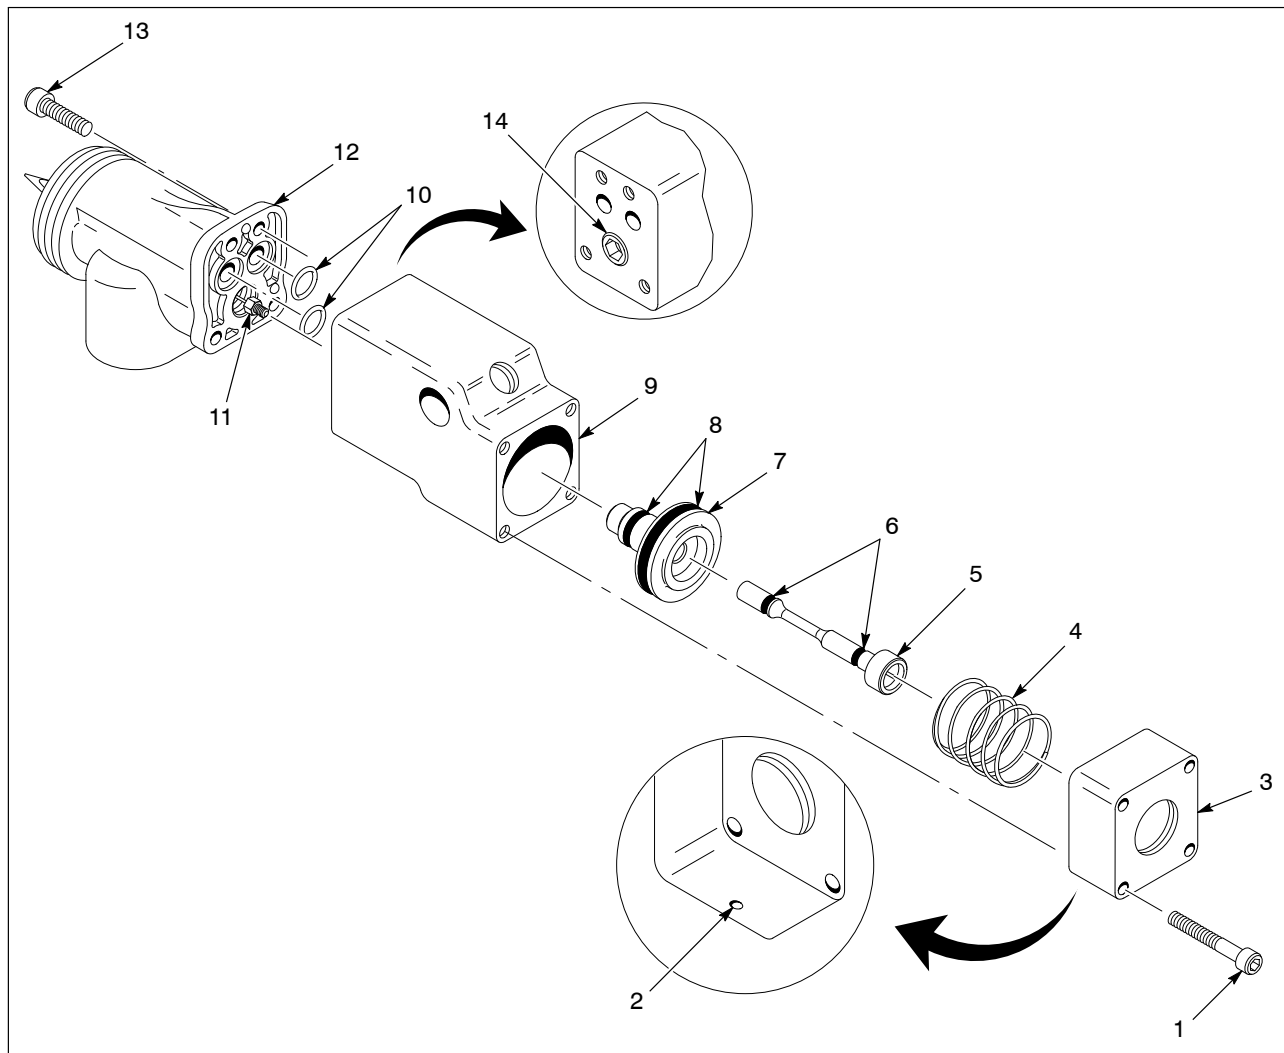
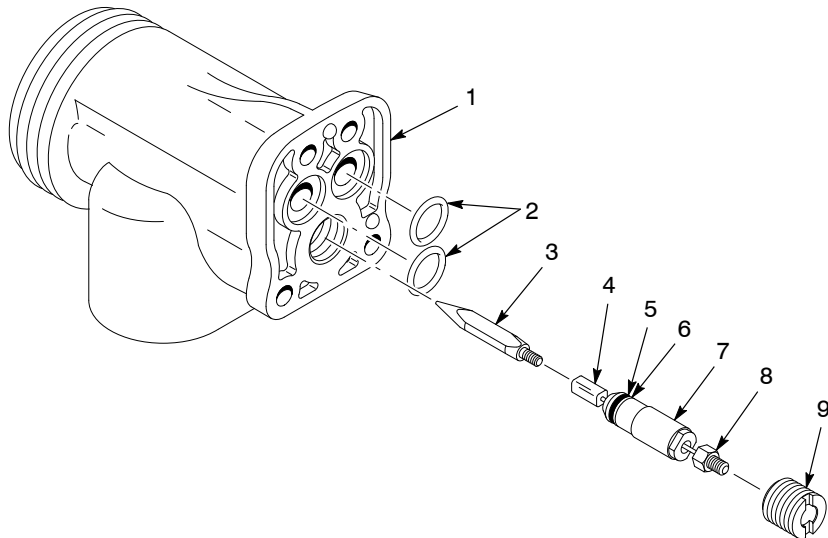

Figure 7-4 Air Piston and Connecting Rod Disassembly and Assembly
Figure 7-5 Packing Cartridge Replacement
3. See Figure 7-4. Insert a flat blade screwdriver into the end of the spray gun body cover to loosen the connecting rod (5) from the packing cartridge. The connecting rod will not remove from the spray gun body (9).
4. Remove the four socket-head screws (13) with a $\frac{9}{64}$ -in. hex wrench to remove the extension (12).
5. Remove the extension from the spray gun body. Do not lose the two face-seal O-rings (10) installed around the extension air cores.
1. See Figure 7-4. Generously lubricate the air piston (7) and its O-rings (8) and reinstall into the spray gun body (9).
2. Lubricate the O-rings (6) on the connecting rod (5) and push it through the air piston.
3. Place the compression spring (4) on the air piston.
4. Place the spray gun body cover (3) over the compression spring so the relief hole (2) is on the bottom. Secure the cover with the four hex screws (1).
3. See Figure 7-4. Insert a flat-bladed screwdriver into the spray gun body cover (3) to loosen the connecting rod (5) from the packing cartridge. The connecting rod will not remove from the spray gun body.
4. Remove the four socket-head screws (13) with a $\frac{9}{64}$ -in. hex wrench to remove the spray gun extension (12).
6. See Figure 7-5. Push the packing cartridge fitting (8) forward and unscrew the packing cartridge retainer (9) from the extension (1) with the combination tool.
9. Inspect the packing cartridge (7) assembly. Replace the O-ring (5) and backup ring (6) if they are damaged. If the packing cartridge assembly is damaged, replace it with a new one. Inspect the face-seal O-rings (2) in the extension. Replace them if they are damaged.
10. If the needle (3) is damaged, replace it as follows:
- a. Hold the pusher fitting (4) with a wrench and unscrew the needle from the pusher fitting.
1. See Figure 7-5. Lubricate the packing cartridge O-ring (5) and backup ring (6) and the face-seal O-rings (2) in the extension (1) with O-ring grease.
2. Insert the packing cartridge (7) assembly into the extension.
3. Screw the packing cartridge retainer (9) into the extension. Tighten the retainer with the combination tool hand-tight.